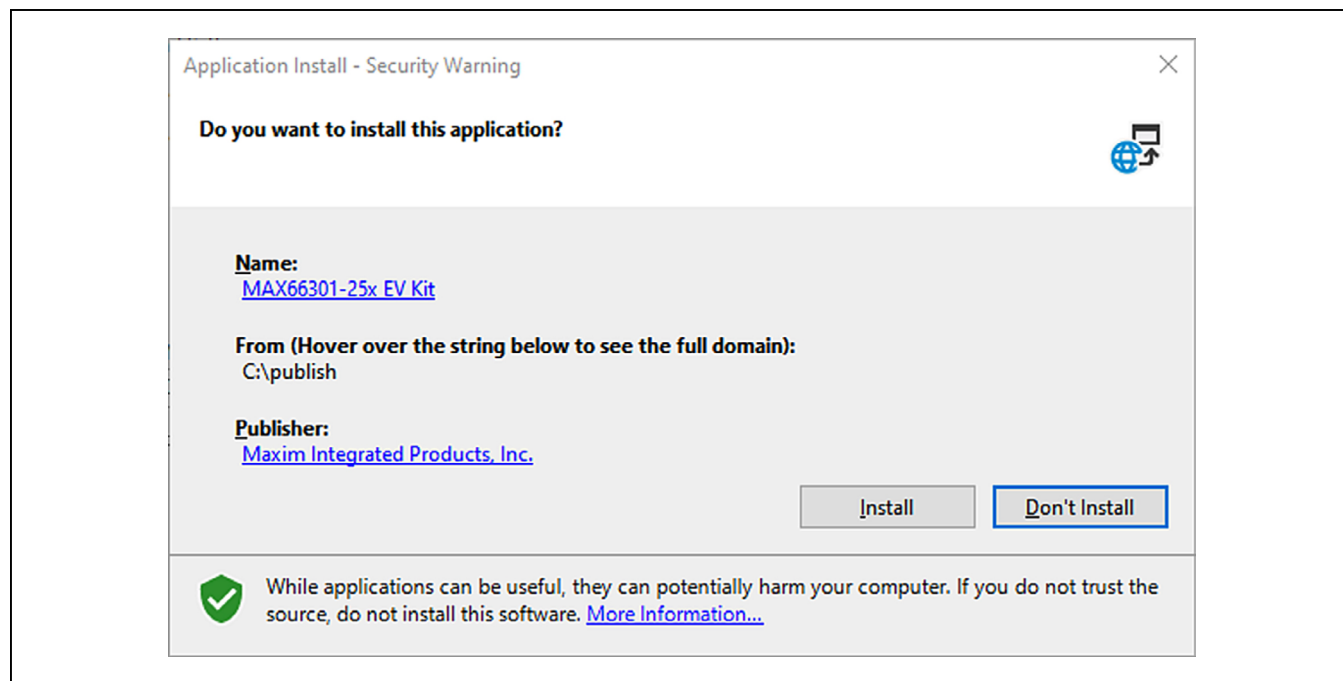

Figure 3. Application Install—Security Warning
- 7) Now, double-click the **Install** button as shown in Figure 3.